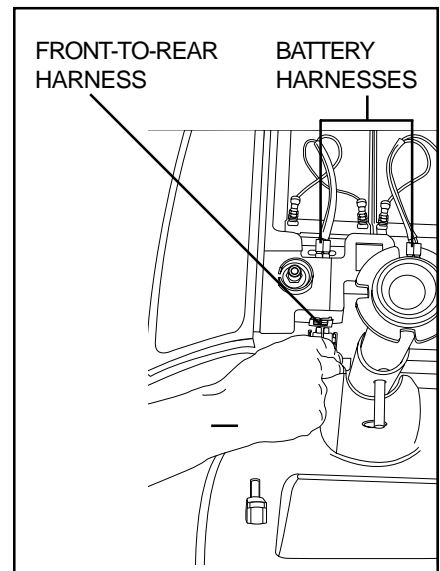

Figure 17. Wiring Harnesses
4. Unplug the front-to-rear harness and both battery harnesses. See figure 17.